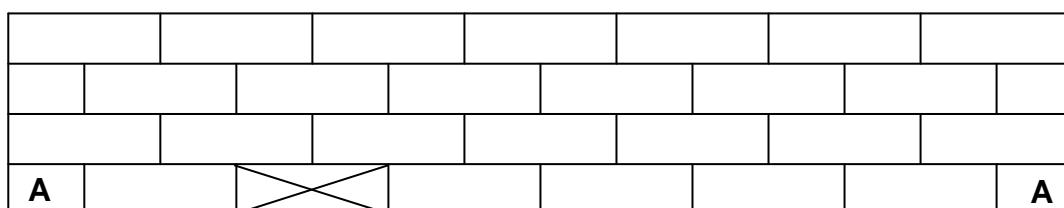

FIGURE 1.9
- 1.9 FIGURE 1.9 below shows the front elevation of a one-brick wall. Study the drawing and answer the questions that follow.